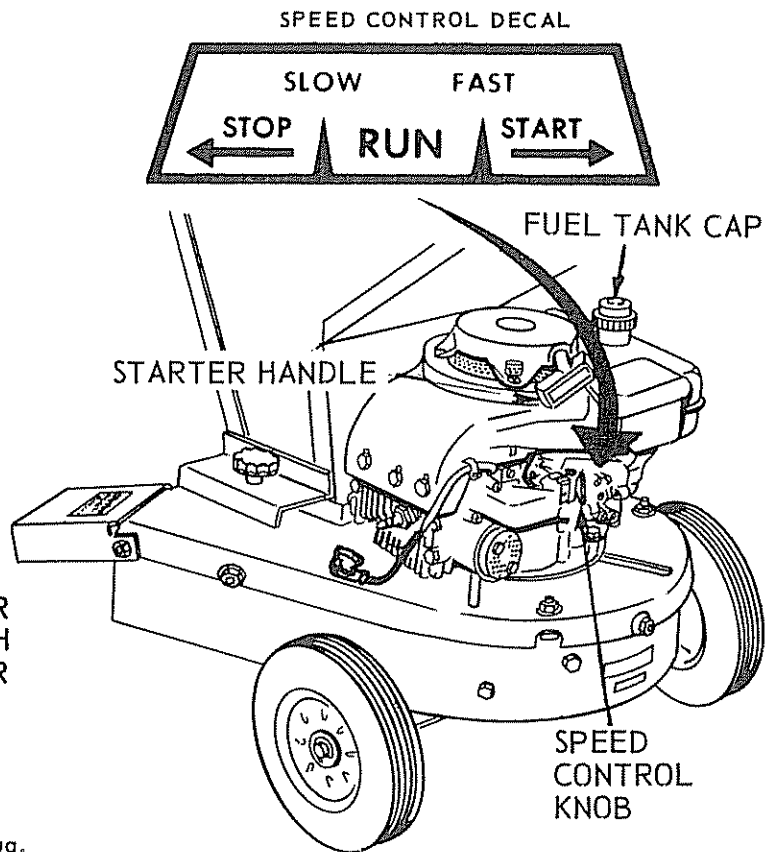

FIG. 4
1. Refer to Fig. 4 for location. Be sure area around fuel cap is clean and remove cap. Fill fuel tank with a good grade of clean, fresh "regular" gasoline. Do not use gasoline that has been stored for any great length of time or has been sitting in some old gas can for a long while. Capacity--1 quart.
3. Attach spark plug cover and wire to spark plug. Refer to Fig. 4, page 4.